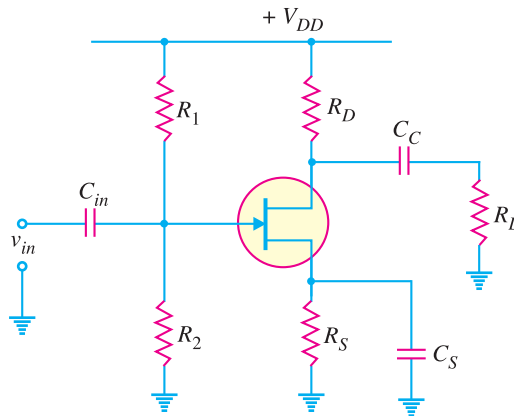
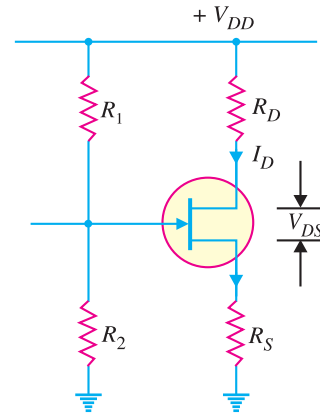
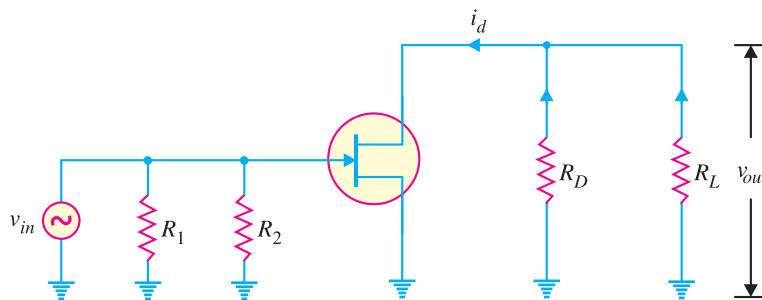

Fig. 19.30
Fig. 19.31
Fig. 19.32
We shall split the *JFET* amplifier shown in Fig. 19.30 into d.c. and a.c. equivalent circuits. Note that biasing is provided by voltage-divider circuit.
Applying these two steps to the *JFET* amplifier circuit shown in Fig. 19.30, we get the d.c. equivalent circuit shown in Fig. 19.31. We can easily calculate the d.c. currents and voltages from this circuit.
Applying these two steps to the circuit shown in Fig. 19.30, we get the a.c. *equivalent circuit shown in Fig. 19.32. We can easily calculate the a.c. currents and voltages from this circuit.
* Note that one end of R_1 and R_2 is connected to one point (See Fig. 19.32) and the other end of R_1 and R_2 is connected to ground. Therefore, $R_1 \parallel R_2$. Similar is the case with R_D and R_L so that $R_D \parallel R_L$.